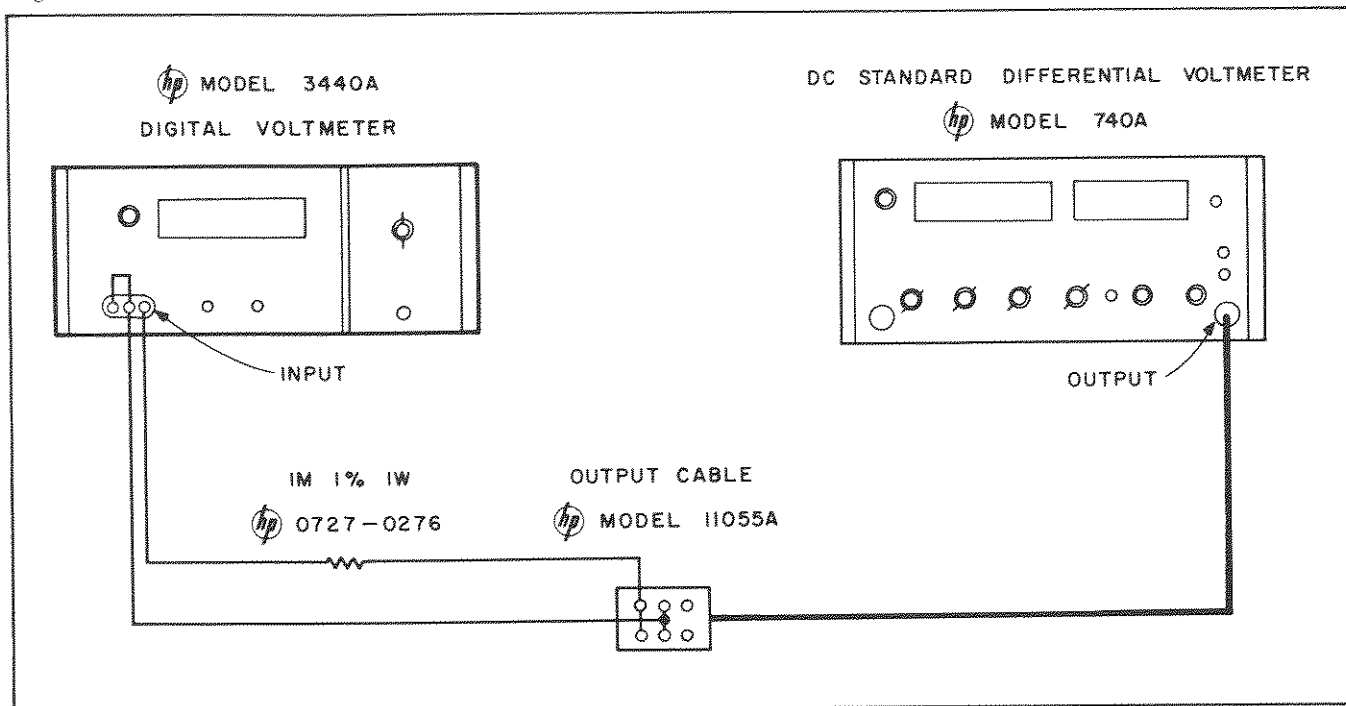

Figure 5-2. Input Impedance Check
- Connect Model 3440A as shown in Figure 5-2.